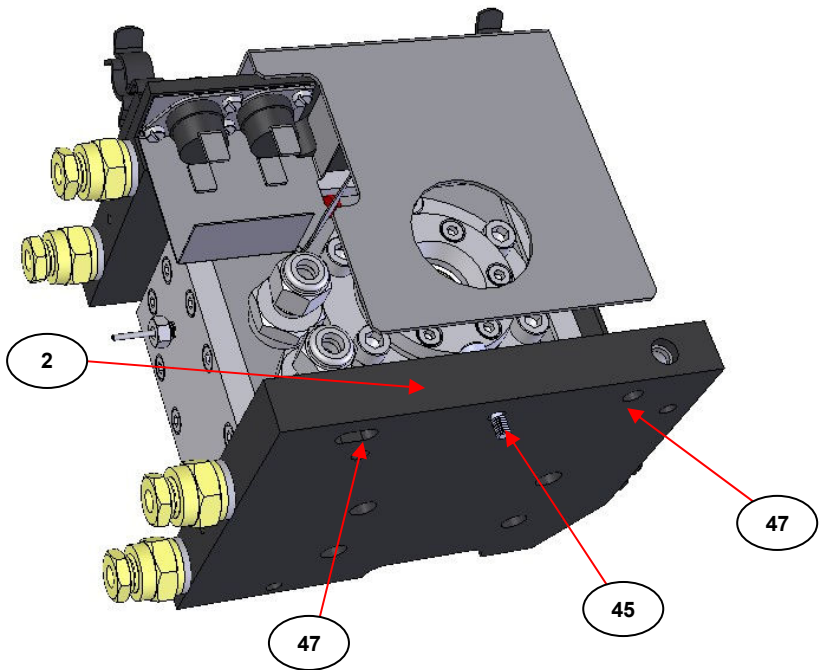

Fig 23. HTHP Cell Baseplate Fixing Screw and Location Slot Holes
For **transmission** and **decomposition** modes of operation the HTHP Cell is placed correctly over the transmission baseplate and is connected by an M4 cap head fixing screw (45) tightened to the central pillar (46) of the line of three pillars or the screw hole location of the baseplate. On the underside of the lower cooling plate (2) there are two recessed location holes (47) (one slot and one hole) that engage with the two pins (48) on the two pillars either side of the central fixing pillar (46) of the baseplate. (See **Figs 23.** and **24.**)